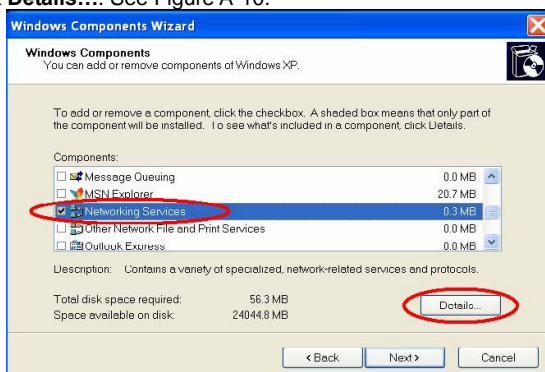

Figure A-10
**Step 3:** Check the **Network Services** in the **Windows Component Wizard** dialog box, and then click **Details....** See Figure A-10.